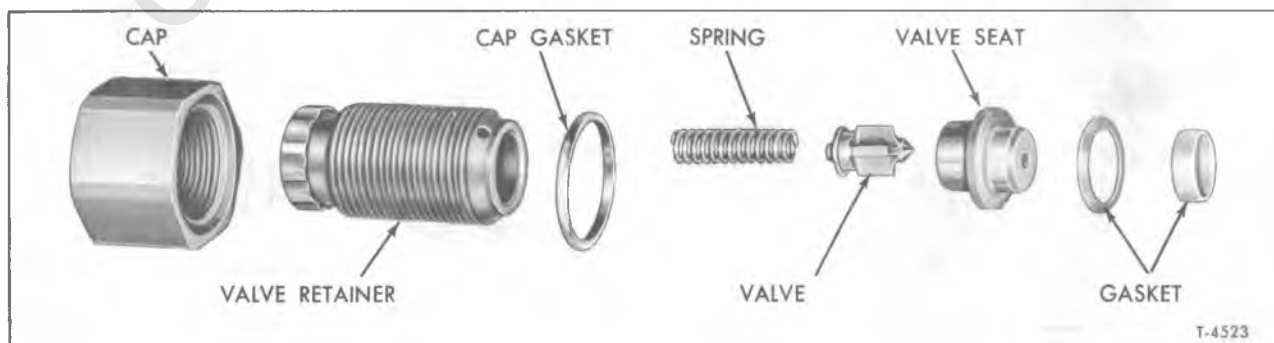

Figure 28—Delivery Valve and Retaining Parts
**REMOVAL** (Fig. 28)
INSPECTION (Fig. 28)
INSTALLATION (Fig. 28)